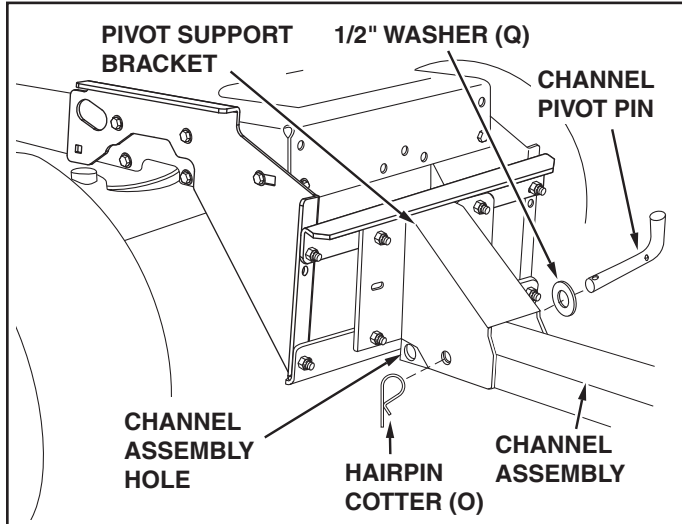

FIGURE 22 (Right Hand Side View)
STEP 8: (SEE FIGURE 22)
- Assemble the large 1/2" washer (Q) onto the channel pivot pin.
- Attach the channel assembly to the tractor by placing the end of the channel assembly up inside the pivot support bracket on the tractor. Align the hole in the pivot support bracket with the second hole from the end in the channel assembly. Insert the channel pivot pin through the aligned holes from the left side and secure with a hairpin cotter (O).
- Remove the hairpin cotter from the channel pivot pin and remove the pivot pin from the channel assembly. See figure 22 on page 12.